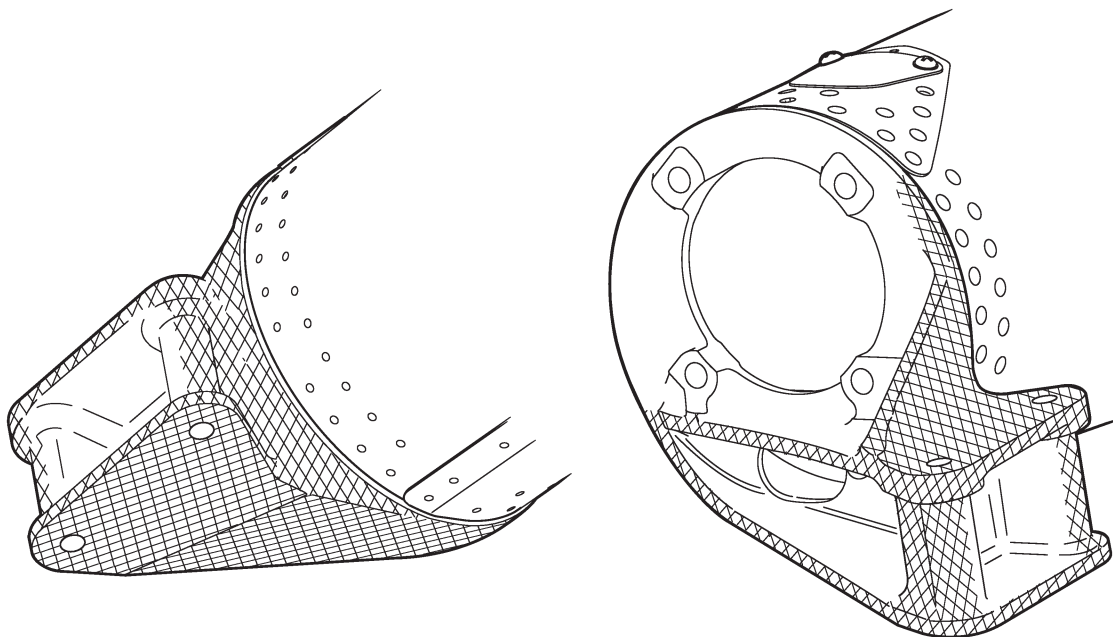

FIGURE 5-8 CROSS-HATCHED SURFACES OF TAILCONE'S AFT CASTING
1. On associated tailcone's aft casting, strip paint from cross-hatched surfaces shown in Figure 5-8.